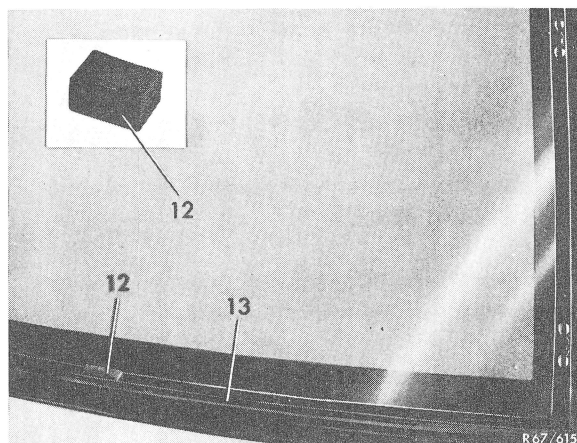

Fig. 4
- 2 Remove rubber molding (13) (Fig. 4).
- 5 Cut approx. 600 mm (half length) of steel wire (2) from repair kit.
- 6 Insert one end of steel wire (2) from inside through glueing cord (1) by means of pliers.
16 Insert two spacers (12) from repair kit into glass opening as shown in Fig. 4.